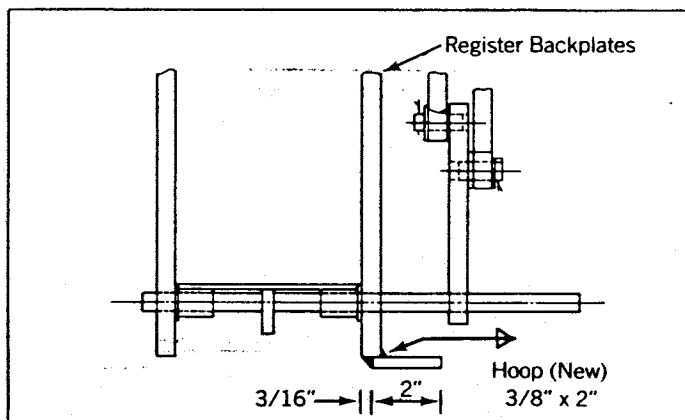

Figure 6 Typical repair for burner backplates.
1. Straighten backplate and add a hoop to reinforce it (Figure 6).